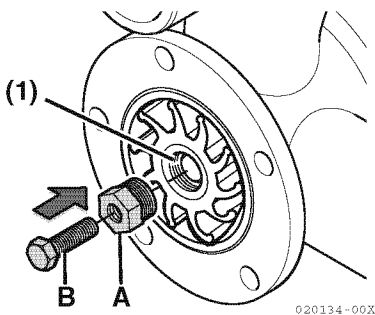
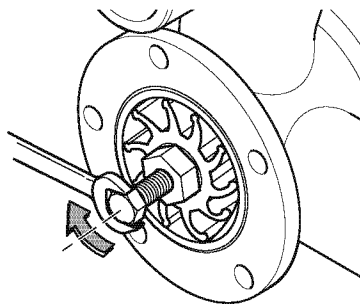

Figure 12
Figure 13
Note: When replacing a used impeller with a new one, the impeller must have an M18x1.5 thread (**Figure 12, (1)**). Turn the M18 screw-side of the impeller to the cover side and install (**Figure 13**).